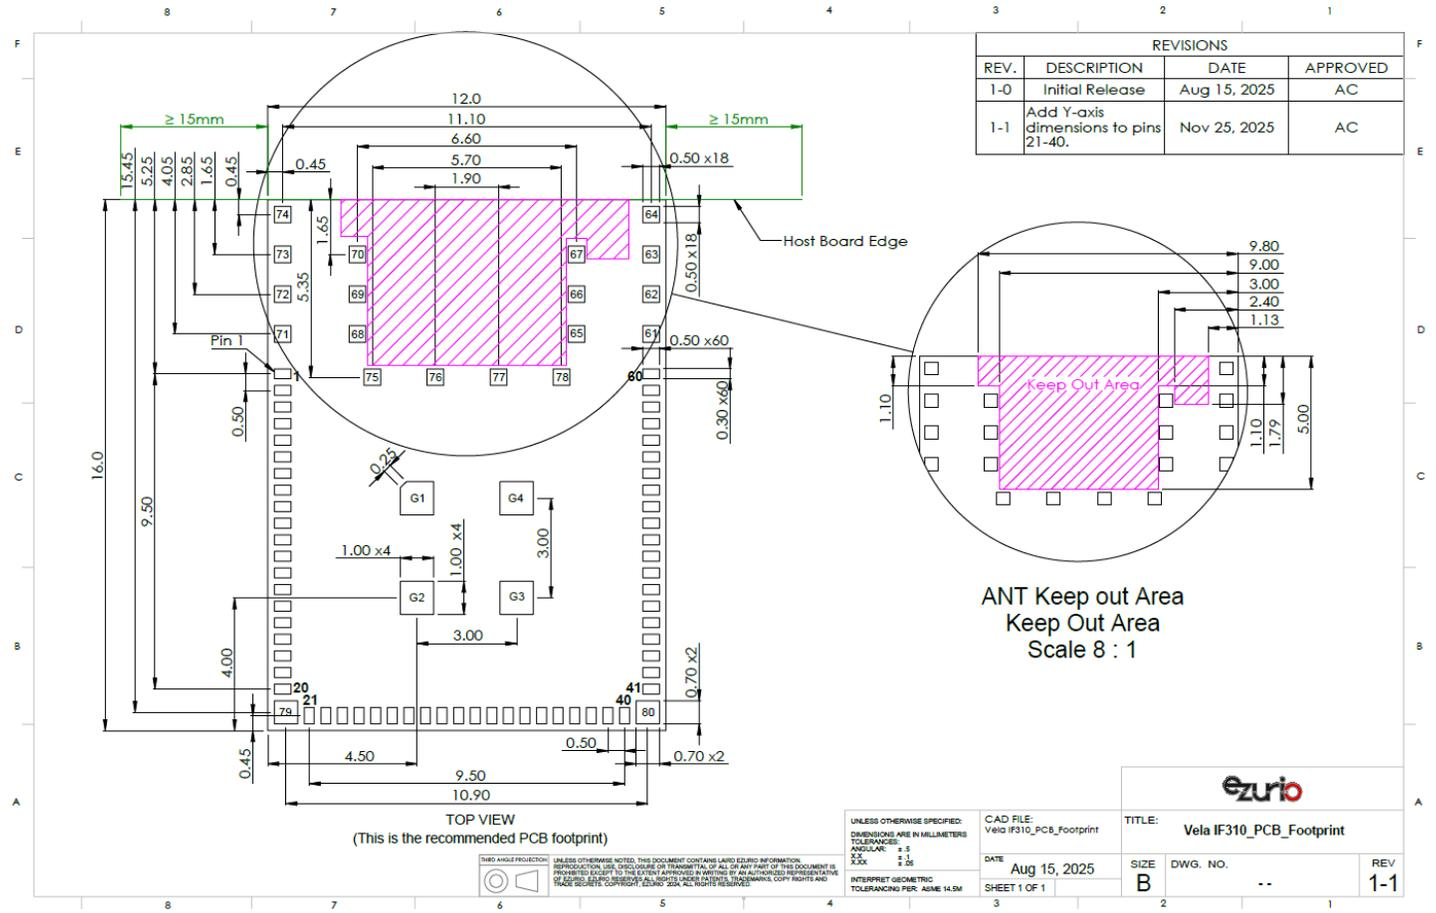
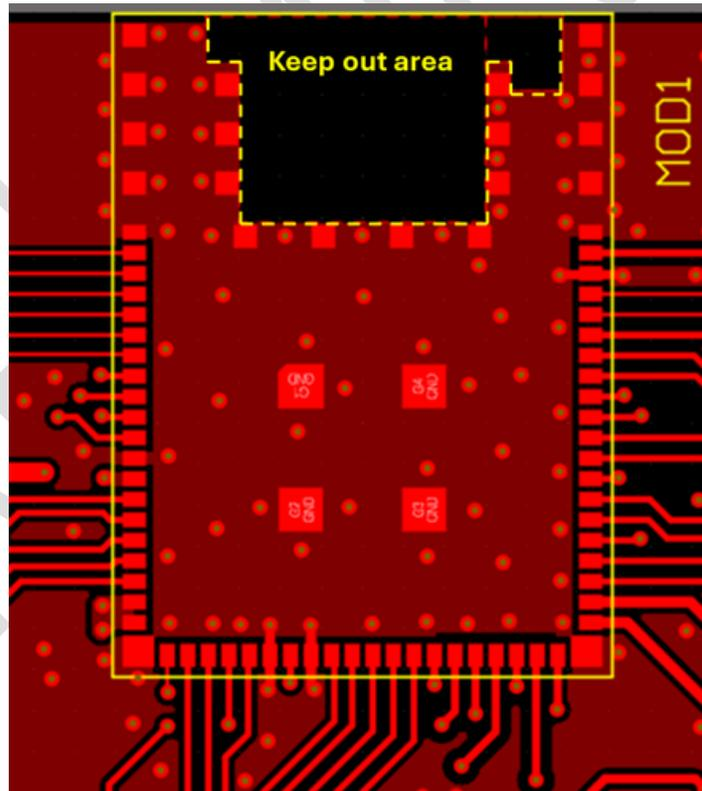

Figure 9: Vela IF310 module PCB footprint (Top view)
Figure 11: Integrated antenna variant layout keep out area
2. To maintain antenna radiation efficiency, you should reserve a keep-out area on all PCB routing layers, as shown in Figure 11. For detailed dimensions, refer to Figure 9.